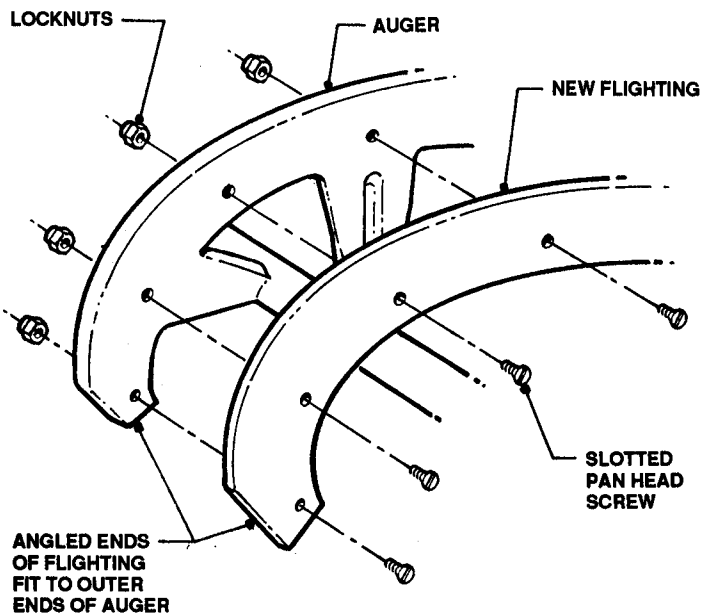

FIGURE 7.7
- (3) Install new Flighting Kit with hardware provided. See Figure 7.7.